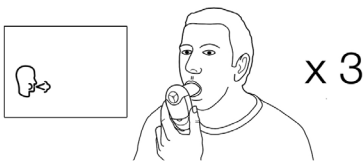

Figure 3. Holding device during test.
2. Turn the device on. ①
4. When the device is ready for a test (👤), holding the head high, breathe in as deeply as possible, hold the Vitalograph Lung Monitor ready in front of the mouth, see Figure 3.